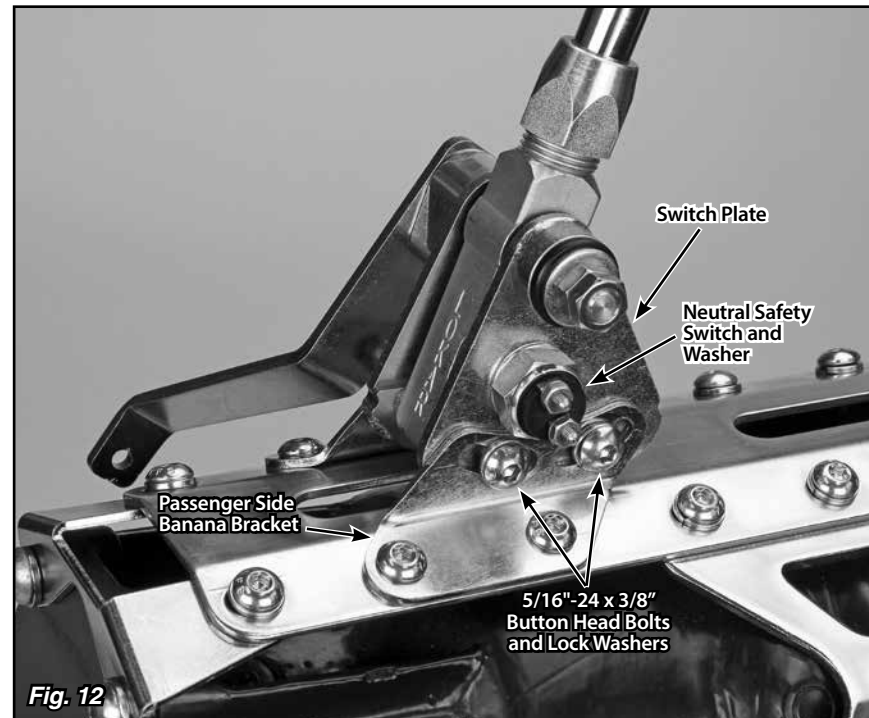

Fig. 12
**Step 18:** Remove the neutral safety switch and washer from the switch plate on the passenger side of the shifter assembly using a 7/8" wrench or socket. **Fig. 12**
**Step 19:** Loosen, but do not remove, the two 5/16"-24 x 3/8" button head bolts and lock washers that attach the switch plate to the passenger side banana bracket (the bolts are in curved, slotted holes) using a 3/16" Allen wrench. **Fig. 12**